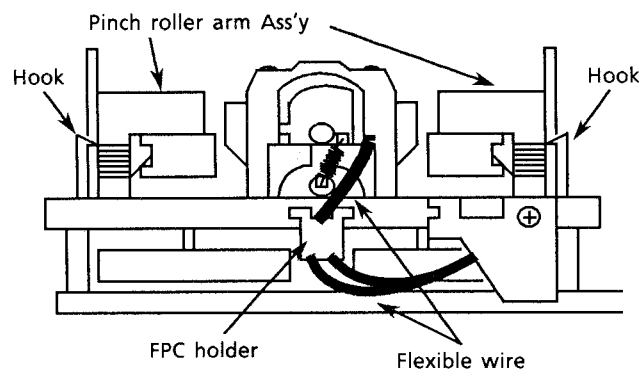

Fig 20
2. Remove the FPC holder (Fig 20).
1. Release the hook holding the pinch roller arm assembly to remove the assembly (Fig 20).